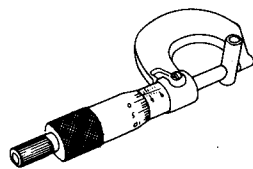
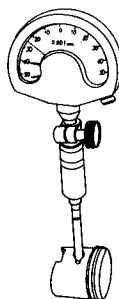

Fig. 14
Fig. 15
(2) Clearance between piston (pin) hole and piston pin (Fig. 14, Fig. 15)